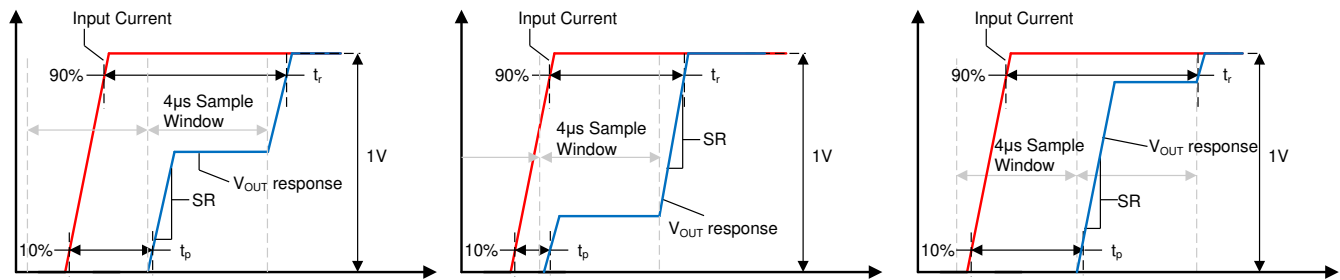

Figure 8-3. Small Current Input Step Transient Response
Slew rate (SR) is defined as the VOUT rate of change for a single integration step's output transition, as shown in Figure 8-3. Because the device often requires two sampling windows to reach a full 90% settling of its final value, this slew rate is not equal to the 10%-90% transition time for the full output swing.
Propagation delay is the time period between the input current waveform reaching 10% of its final value and  $V_{OUT}$  reaching 10% of its final value. This propagation delay is heavily dependent upon the alignment of the input current step and the sampling period of the TMCS1101-Q1, as shown for several different sampling window cases in Figure 8-3.
Response time is the time period between the input current reaching 90% of its final value and the output reaching 90% of its final value, for an input current step sufficient to cause a 1-V transition on the output. Figure 8-3 shows the response time of the TMCS1101-Q1 under three different time cases. Unless a step input occurs directly during the beginning of one sampling interval the response time will include two sampling intervals.